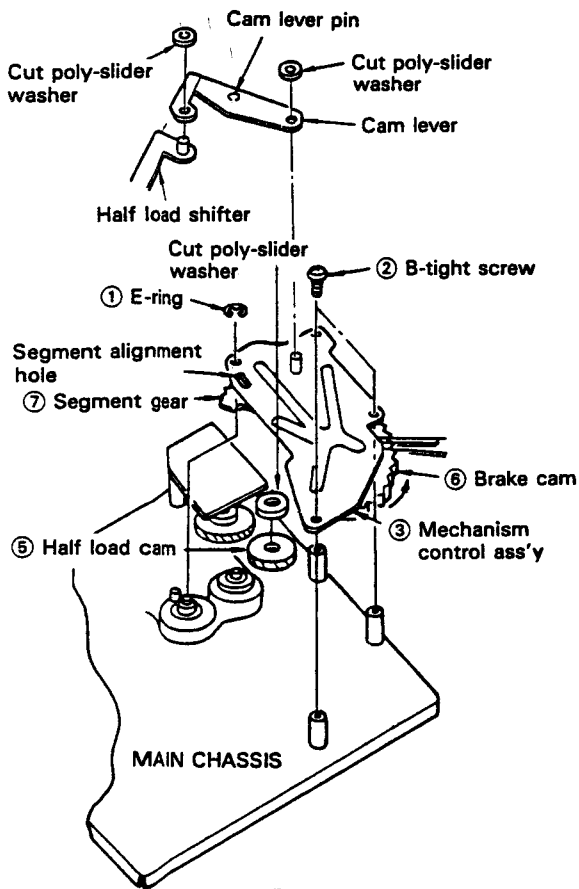

Figure 1-25
- **Removal (Fig. 1-25)**
2. Remove the E-ring ①.
3. Remove the three screws ② (LX-HZ3027GEFD).
4. Remove the mechanism control assembly ③.
- **Installation (Fig. 1-25.)**
1. Remove the cut poly-slider washer ④.
2. Remove the relay gear (B) ⑤.
3. Adjust the position of the shifter assembly (A) 11 so that the alignment hole (A) of the chassis is aligned with the alignment holes of the shifter assembly and brake drive lever 13. (Remove the main brake spring 14 for easier positioning.)
4. Remove the tension arm spring, and fully turn loading gears (A) ⑧ and (B) ⑩ in the direction indicated by the arrow (B), to get the mechanism in the unloading mode.
5. Turn the brake cam ⑥ of the mechanism control assembly in the direction indicated by the arrow until the alignment hole (C) of the segment gear is at the center of the segment alignment hole for the auxiliary angle.
6. Attach the mechanism control assembly ③ to the main chassis. This can be done easily if the shifter assembly (A) 11 is moved to the left and right. Secure the three screws ②.
7. Put the E-ring ① on.
9. Install the relay gear (B) ⑤.
10. Install the washer ④.